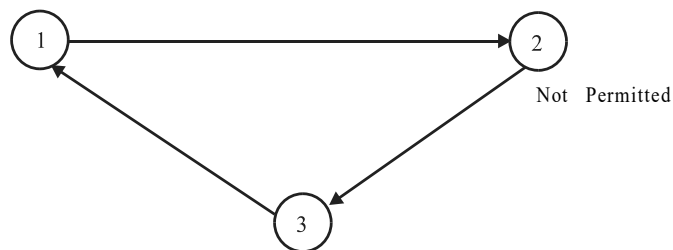

**Fig. 10.1**
1. A decision-maker prepares the list of activities and their inter-dependence and inter-relationships. Each activity is represented by a circle called node or event and an arrow, i.e., one activity should have only one arrow representing it as given in Fig. 10.1 below :
2. Each activity must have a preceding and a succeeding event. Hence an activity is designated by a pair of preceding and succeeding events so numerically numbered. The head-events always should have a number higher than that of the tail event. Starting event is the preceding event and completion event is the succeeding event, as 1 and 2 above (Fig. 10.1).